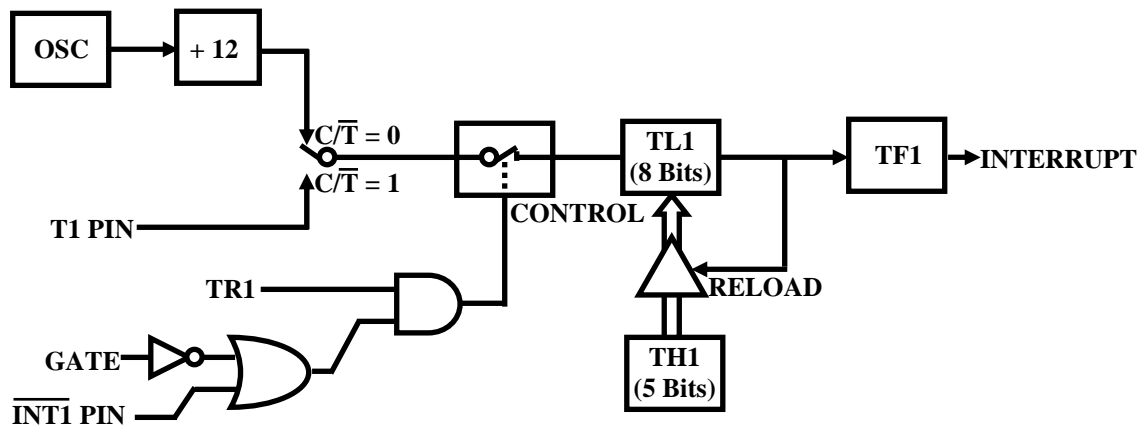

Fig. 14.5 MODE 2 configures the Timer register as an 8-bit counter with automatic reload
- Q5. Explain the circuit given in Fig.14.5.